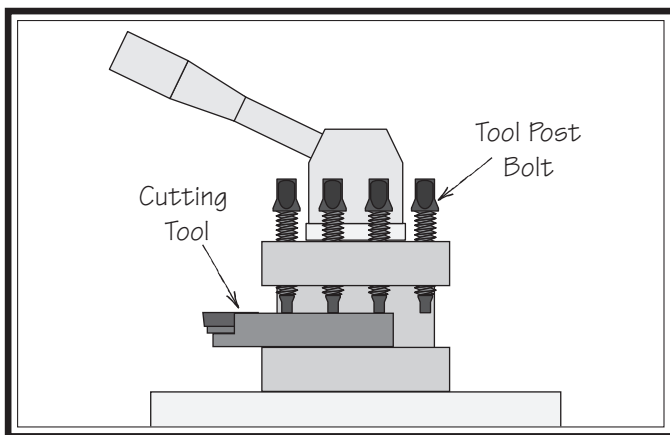

Figure 45. Example of tool mounted in tool post.
1. Adjust the tool post bolts so that the cutting tool can fit underneath them (see **Figure 45**).